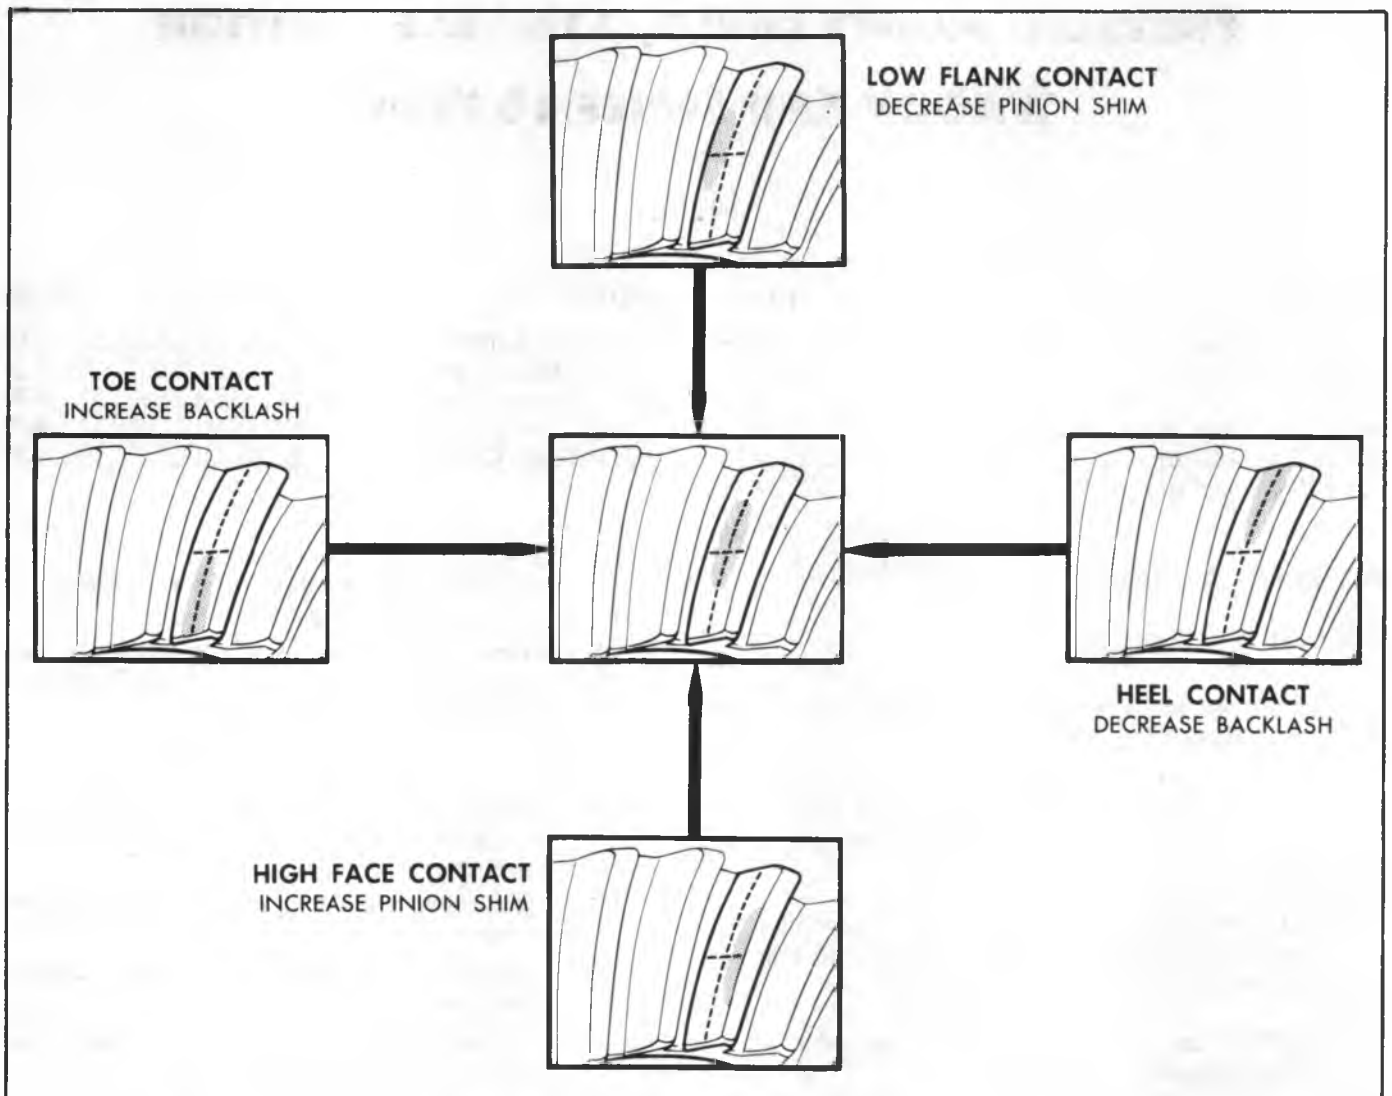

Fig. 26A-Gear Teeth Contact Pattern Check
5. Observe pattern on ring gear teeth and compare with Figure 26A.